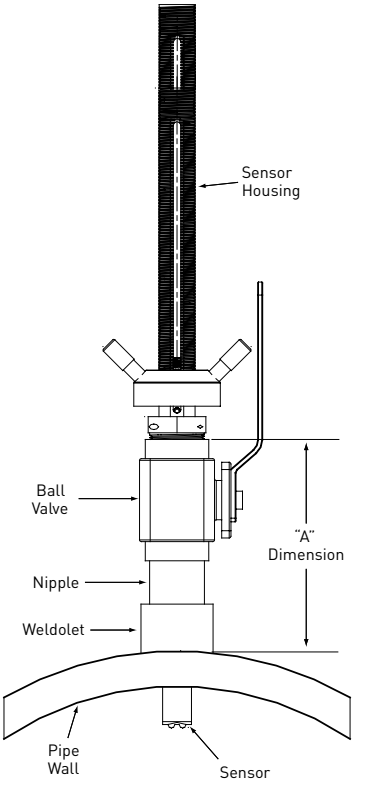

Fig. 2 Hot-Tap installation with "A" dimension using a ball valve, short nipple and weldolet (threadolet)
- For retrofit installations, the ball valve must be at least a 1.25 in. full port valve. The stack height, or "A" dimension (see Fig. 2), is the overall height from the top of the pipe to the top of the ball valve, or the top of the highest point of the stack before the sensor is connected.
- For new installations, Signet recommends a 1.25 in. full port ball valve, a short nipple and a weldolet (threadolet). The stack height or "A" dimension (see Fig. 2) is the overall height from the top of the pipe to the top of the ball valve.